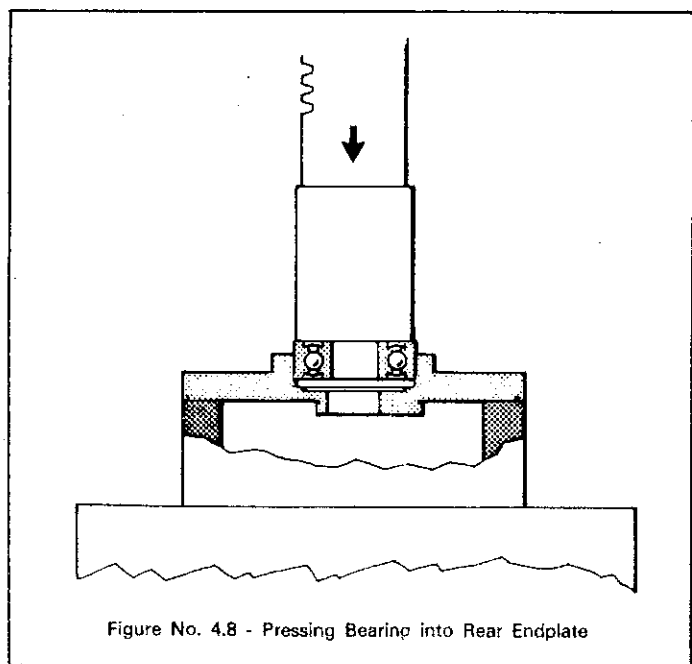

Figure No. 4.8 - Pressing Bearing into Rear Endplate
18. Torque the twelve gear case cap screws (36) to 150 - 165 in.-lbs. (16.9 to 18.6Nm)
19. Press the single row rotor shaft bearings (6) into the rear endplates (3) as shown in Figure No. 4.8.